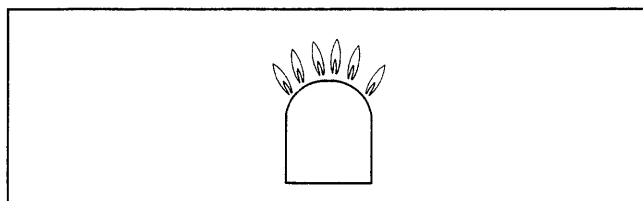

Fig. 14
13. Observe the main burner flame through hole in the burner assembly plate. The flame should have a smooth, firm contour and be mostly blue in color, fig. 14. If the main burner flame is satisfactory, go to step 14. If main burner flame is lazy, yellow, or lifting off the burners, turn the gas control knob clockwise ↷ to "OFF". Shut off the main gas piping shutoff valve. Disconnect all electric power to the appliance and call your service technician or gas supplier.